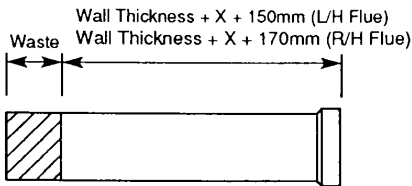

Fig. 40
4. Take the **Flue Duct** from the flared end. Cut the waste off the plain end (Fig. 40).